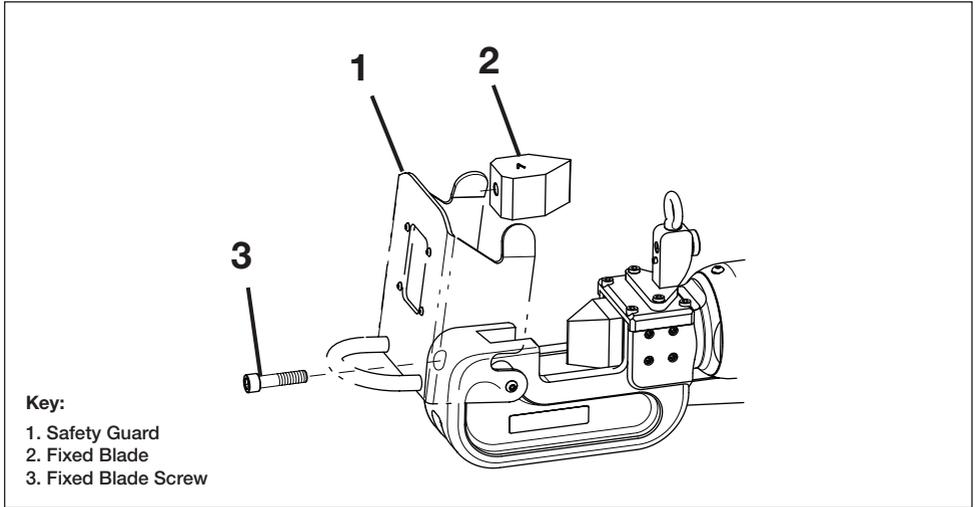

Figure 15, Fixed Blade Replacement
Replace the fixed blade as described in the following steps. Refer to Figure 15, items 1 through 3.